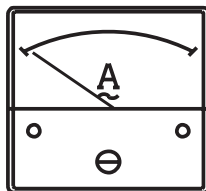

Figure 55. Ammeter (No Load)
8. The **ammeter** (Figure 55) will indicate **zero amps** with no load applied. When a load is applied, the ammeter will indicate the amount of current that the load is drawing from the generator.